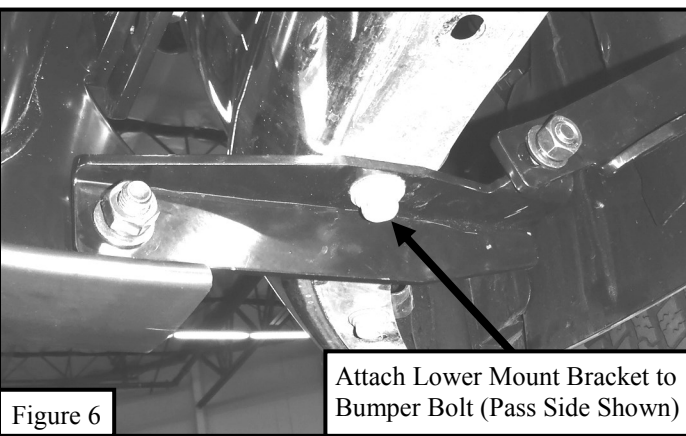

Figure 6
6. Remove the factory M10 flange bolt from the bottom of the bumper located beneath the area of the tow hook pocket. Use the factory bolt to loosely attach the lower mounting bracket. **See Figure 6.**